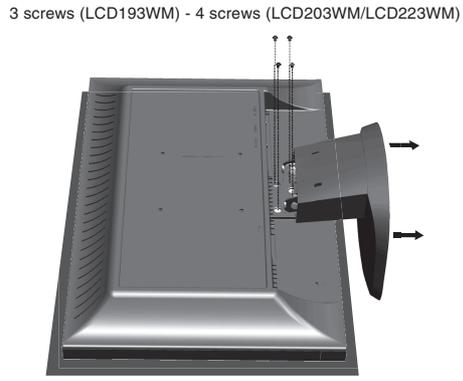

Figure R.2
4. Remove the 3 screws (LCD193WM) or the 4 screws (LCD203WM/LCD223WM) connecting the monitor to the stand and remove the stand as indicated (**Figure R.2**).